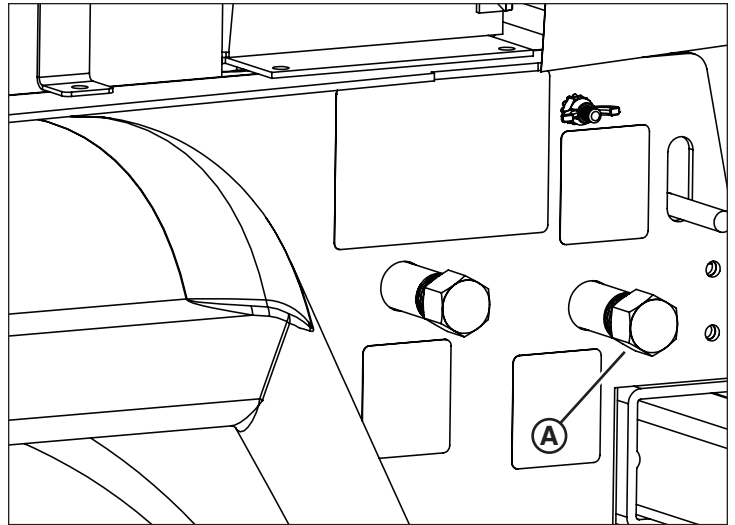

Figure 24
1. Position a suitable container beneath the fluid containment drain (A, Figure 24), located on the left side of the light tower trailer toward the rear.